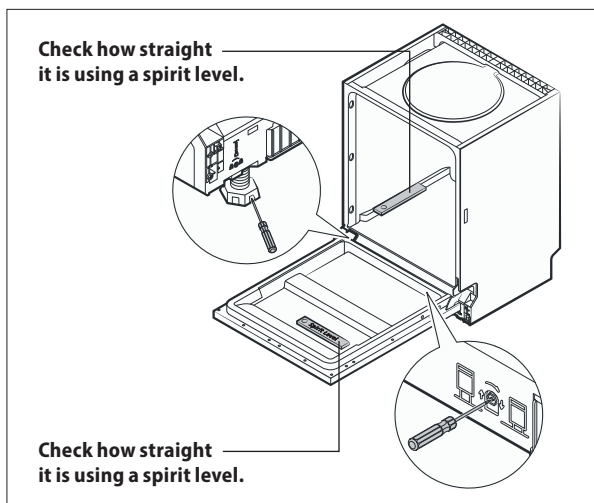

Fig. 18
8. Use the feet at the front and back of the appliance to level it to a horizontal position. Adjust the back feet by turning the screw on the bottom of the front side of the appliance (step 5). Adjust the front feet by turning screws located near the feet themselves (step 5B). Use a spirit level Fig. 18).
2. Place a spirit level on the fully opened door and in the interior of the appliance (Fig. 18). Make sure the dishwasher is in a horizontal position.